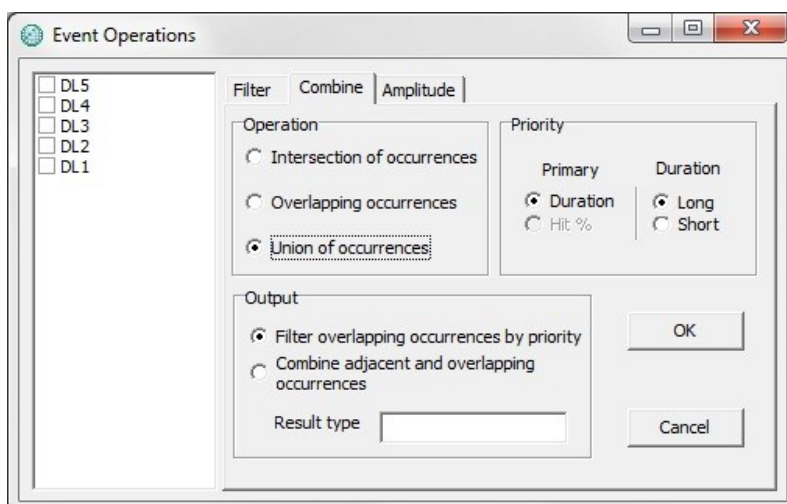

Figure 11.25 Union of occurrences
**Union of occurrences:** Finds all occurrences (see figure 11.25). The resulting event types cannot intersect. **Priority** works the same.